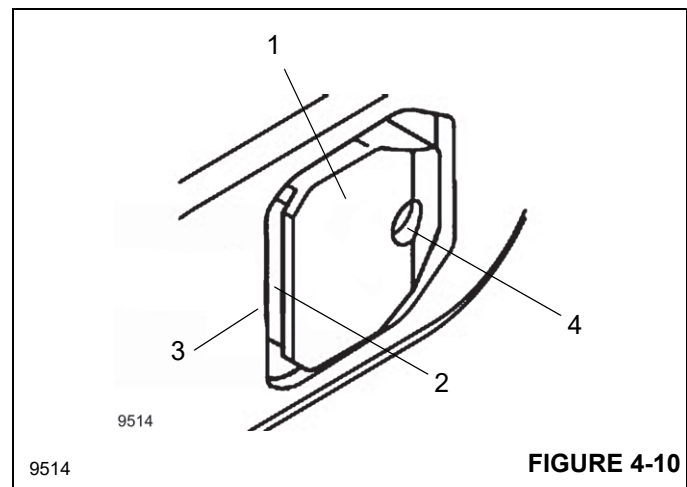

FIGURE 4-10
You can only lock or unlock a telescopic section manually if the recess (2, Figure 4-10) in the locking pin (1) no longer engages in the telescopic section (3) above it.
1. Remove the grease fitting from the bore hole (4, Figure 4-10).
2. Insert a screw into the hole (4). The locking pin (1) is retracted in the process. You can assist this process by lightly hammering on the locking pins.
3. Tighten the screw against the spring load until the locking pin (1) is pulled in as far as it will go and is situated behind the side wall of the telescopic section.
1. Retract the telescopic section until the locking pin (1, Figure 4-10) is in the middle of the opening.
2. Remove the screw from the bore hole (4). The locking pin (1) is then pushed out of the opening due to spring tension.
4. Retract the telescopic section until the recesses (2) have been set down on the telescopic section (3) above it.